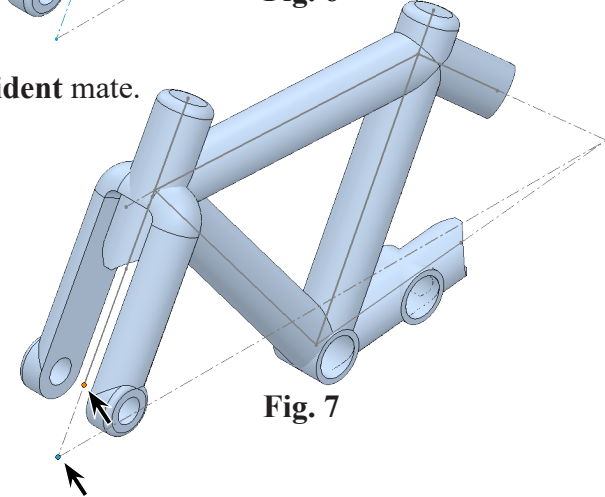

Fig. 7
Step 7. Click **bottom endpoint of Head Tube construction line in Frame sketch** and **bottom endpoint of line in Fork**, **Fig. 7**.